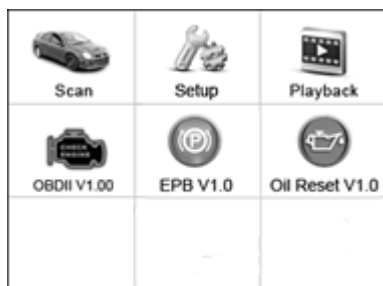

Figure 3.1
- 4) Power up the scan tool , and wait for the **Main Screen** to appear.(Figure 3.1)
- 1) Use the **LEFT/RIGHT** scroll button to select **Playback** from **Main Screen** (Figure 3.1), and press the **OK** button. Wait for the **Scan** screen to appear. (Figure 4.1)
- 2) Select **Scan** icon in the **Main Screen** (Figure 3.1) and wait for the vehicle manufacturer screen. Choose the correct vehicle make.